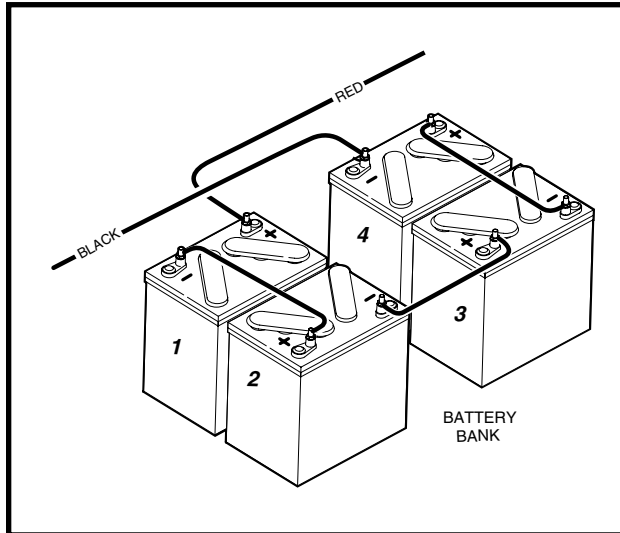

Figure 13-5 IQ System Battery Configuration
5. Install batteries in the proper orientation (**Figure 13-5, Page 13-4**). Install battery hold-downs. The hold-downs should be tight enough so batteries do not move while vehicle is in motion, but not so tight as to crack or buckle battery case. Tighten to 49.5 in-lb (5.6 N·m), alternating between hold-down bolts.
6. Install wires in proper sequence (**Figure 13-5, Page 13-4**). Install black wire to negative post of battery no. 4 last. Make sure all connections are tight. Tighten to 110 in-lb (12.4 N·m). Coat all terminals with Battery Terminal Protector Spray (CCI P/N 1014305) to minimize future corrosion.
When the batteries are fully charged, disconnect the charger DC plug. Wait 20 to 30 seconds and reconnect the DC plug to restart the charger. After 5 minutes, use a multimeter to check and record the voltage of the battery set as well as the individual batteries. Set the multimeter to 200 volts DC. Place the red (+) probe on the positive (+) post of battery no. 1 and the black (-) probe on the negative (-) post of battery no. 4 (**Figure 13-5, Page 13-4**). Record reading. Then set multimeter to 20 volts DC and place the red (+) probe on the positive (+) post and the black (-) probe at the negative (-) post of each battery. Record the readings.